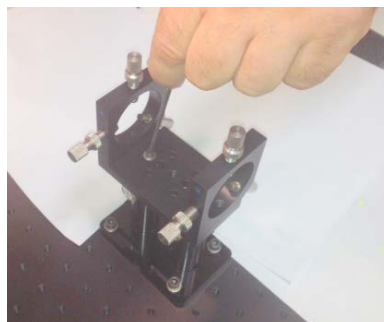

Figure 7
Step 6: Place laser mount assembly (61-1483) on 2 post holder assemblies and secure with qty. 2, 8-32 screws (P/N 50-OCC008030). *Shown in Figure 7.*